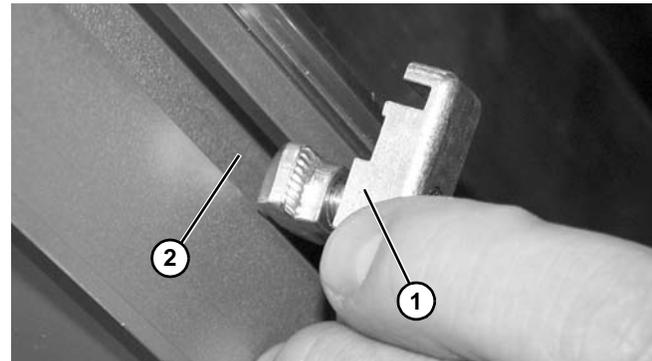

Figure 30
1. Install guide clip assembly (Figure 30, item 1) into conveyor t-slot (Figure 30, item 2) as shown.